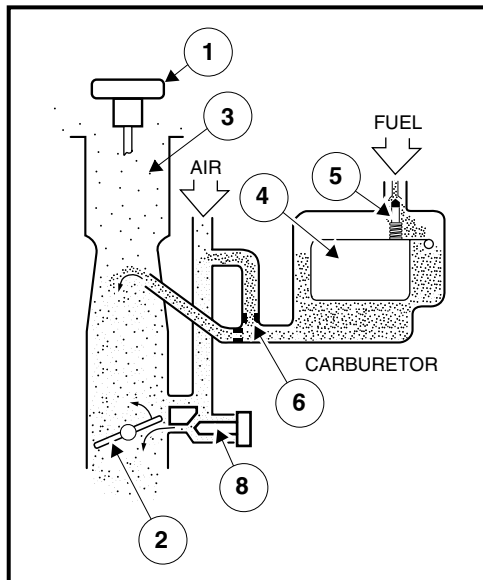

Figure 14-4 Choke System
The choke system aids in starting the engine in cold weather. When starting a cold engine, the choke cable handle (1) (**Figure 14-4, Page 14-5**) is pulled. This restricts the air flow to the venturi, causing a very high vacuum that draws fuel into the venturi at a high rate and thus creates a “fuel rich” mixture. The choke handle is pulled until the engine starts, and then released when the engine begins to run smoothly.
Fuel is supplied to the carburetor float chamber by an external impulse pump that draws fuel from the fuel tank and through the fuel filters (**Figure 14-4, Page 14-5**). The fuel then passes through the inlet valve (5) and into the float bowl. The fuel entering the bowl causes the float (4) to rise until it shuts off the inlet valve, preventing the fuel from exceeding a level predetermined by the float level setting.